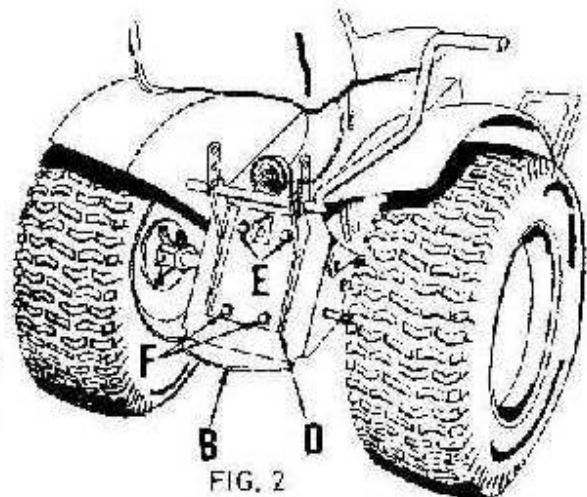

FIG. 2
3. Refer to Fig. 2. Assemble hitch mounting assembly with lever (D), to tractor drawbar (B), using two 1/2 x 1 1/4 hex bolts and lockwashers (E). Use upper holes in hitch mounting assembly (D), and upper holes in drawbar (B).